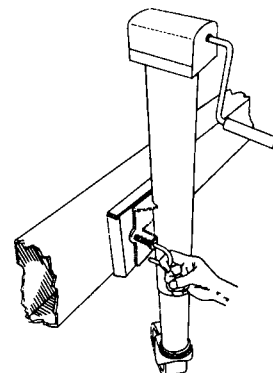

Figure P3: Swivel Jack
1. Pull on the lock pin. See Figure P3.